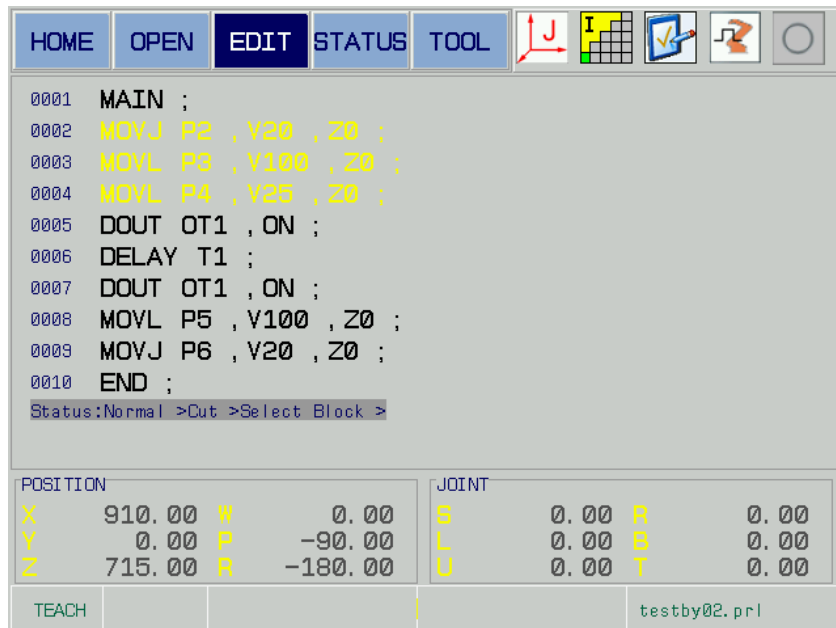

Fig. 5-39
2. Press [CUT], in this case, the cutting area SELECT may prompt at the bottom of the interface; select the desired cutting area (from the 2nd line to the 4th) by up/down direction button; refer to Fig. 5-39.